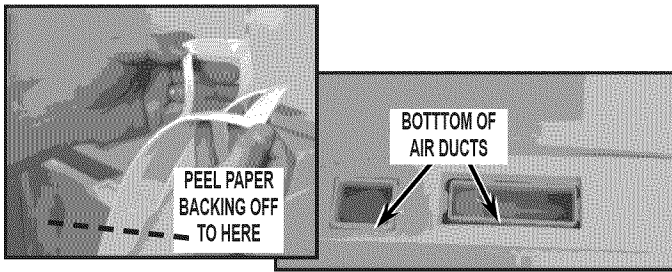

FIGURE 21
27. Peel paper backing half-way off new gasket. Position gasket to touch bottom of air ducts with adhesive side on the liner. See *Figure 21*. Apply gasket to back wall of liner.